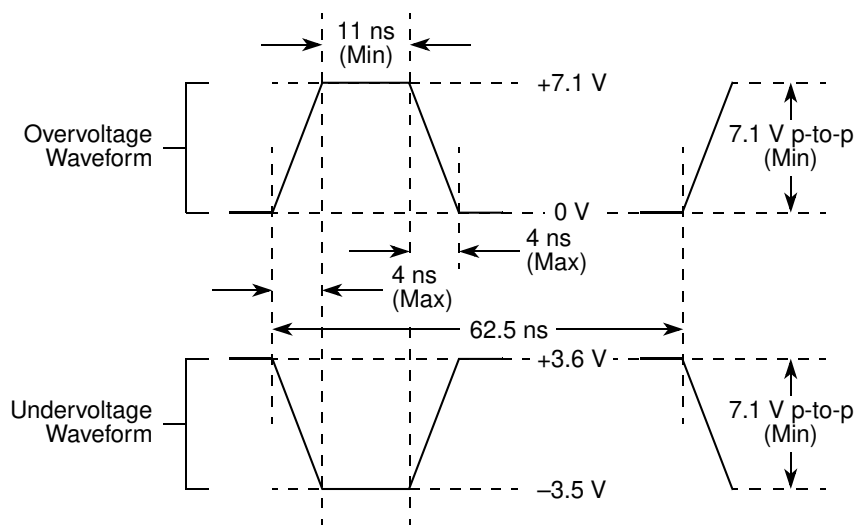

Figure 3. Maximum AC Waveforms on PCI interface for 3.3-V Signaling
- $OV_{IN}$  on the PCI interface may overshoot/undershoot according to the PCI Electrical Specification for 3.3-V operation, as shown in Figure 3.
Figure 3 shows the undershoot and overshoot voltage of the PCI interface of the MPC8540 for the 3.3-V signals, respectively.